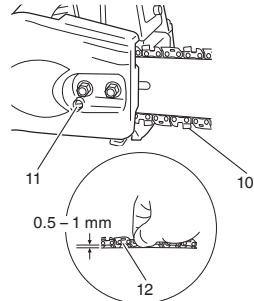

Fig. 6
7. Raise the bar end, and tighten the chain (10) by turning the tension adjustment bolt (11) clockwise. To check proper tension, lightly lift up the center of chain and there should be about 0.5 – 1.0 mm clearance between bar and edge of drive link (12). (Fig. 6, 7)